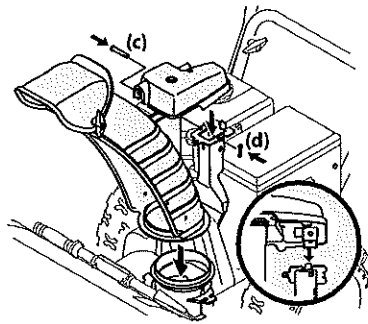

Figure 2-8
2. Place chute assembly onto chute base and secure chute control head to chute support bracket with clevis pin (c) and cotter pin (d) removed in Step 1. See Figure 2-8.